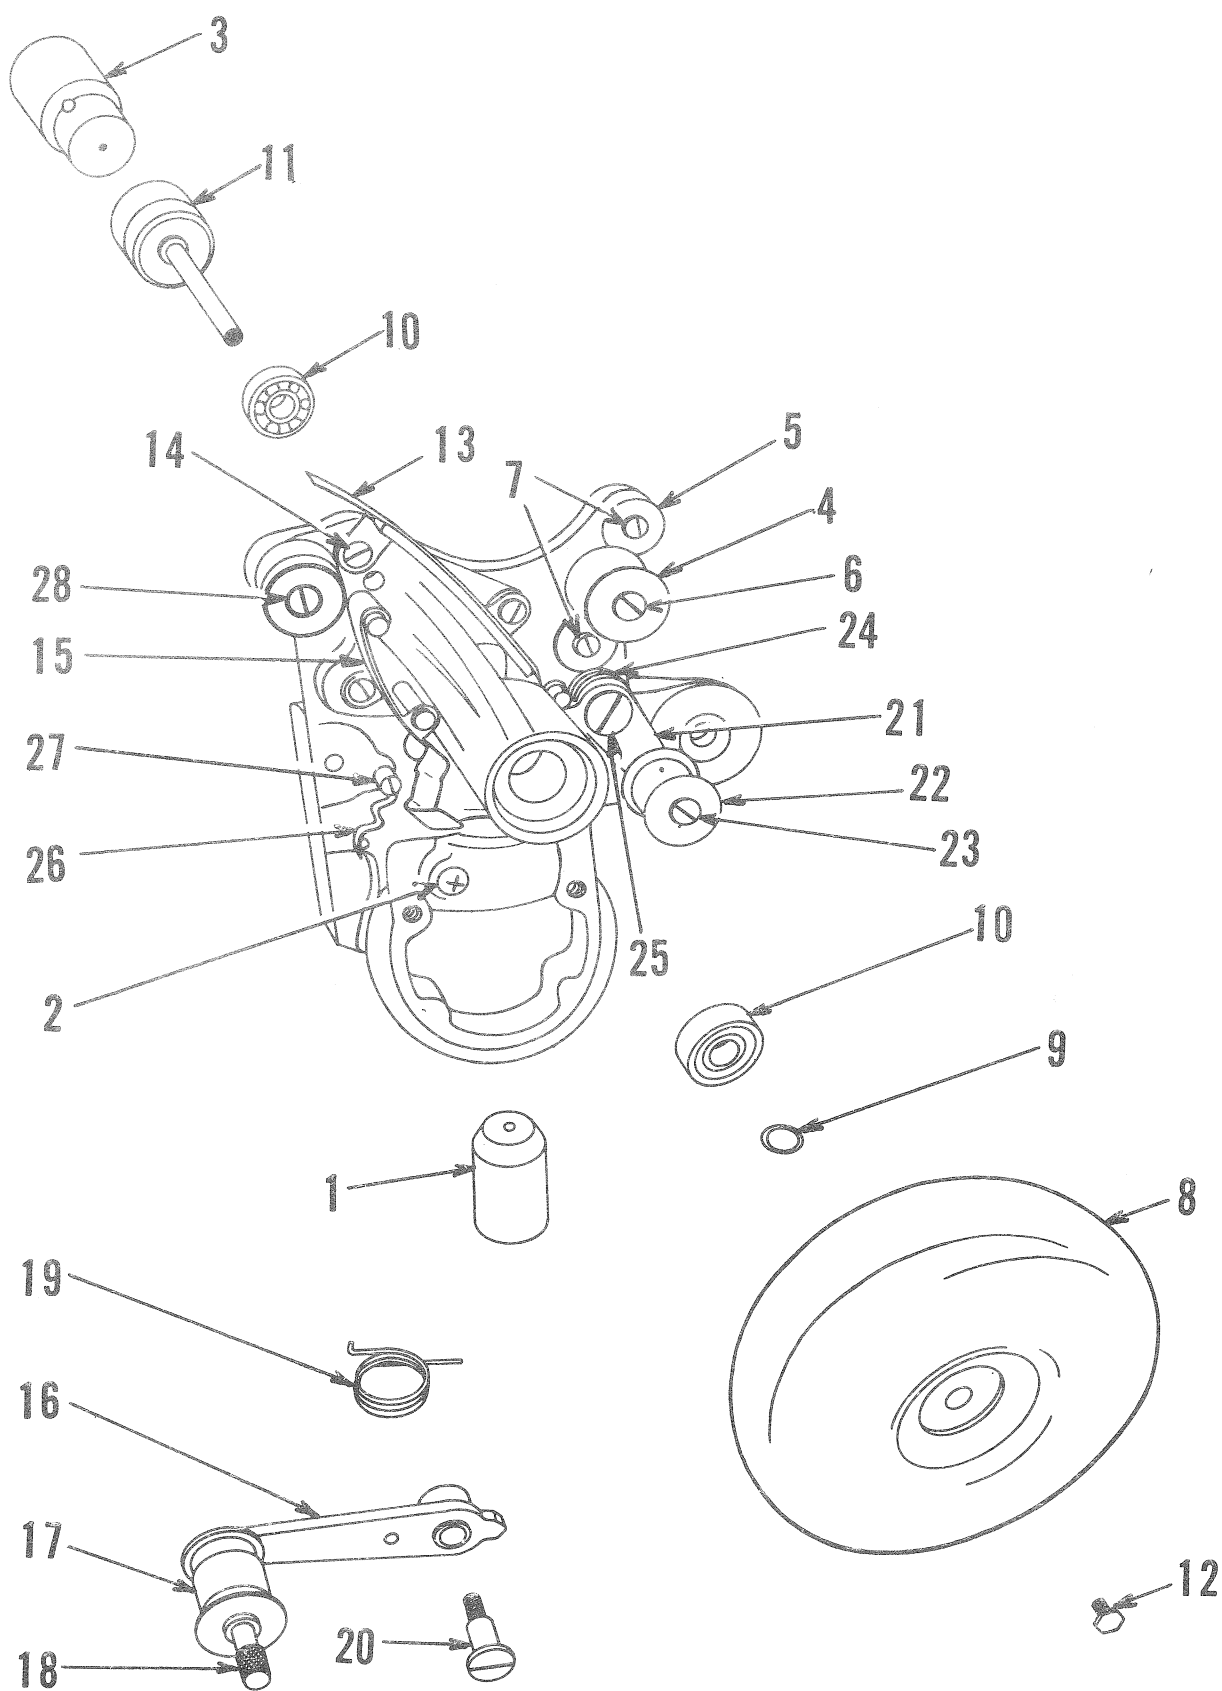

Figure 4. SOUND HEAD
b. Disassembly (See Figure 4)
(1) Upper Guideway - Remove two screws (14) and guideway assembly (13).
(5) Film Guide Rollers - Remove film tension equalizer pivot (25), film tension equalizer assembly (21) and spring (24). Remove film guide roller retaining screw (23), film guide roller (22) and spacer washer. Remove guide roller stud (6), guide roller (4) and take-up belt guide roller. Remove take-up belt guide roller studs (7) and take-up belt guide rollers (5).
(6) Sound Optical System (1) - Break seal on sound optical system retaining screw (2) and loosen screw. Insert end of small screwdriver in slot in sound optical system clamp and expand clamp. Slide optical system (1) out of sound head. Do not attempt to disassemble optical system. If inner surfaces of lenses are dirty, or system is damaged, send to nearest Graflex Service Department for repair.
c. Repair and Reassembly (See Figure 4)
(1) Upper Guideway - If supporting ribs on upper guideway (13) are worn so that there is danger of either sound track or picture area coming in contact with recessed portion of guideway, replace guideway.